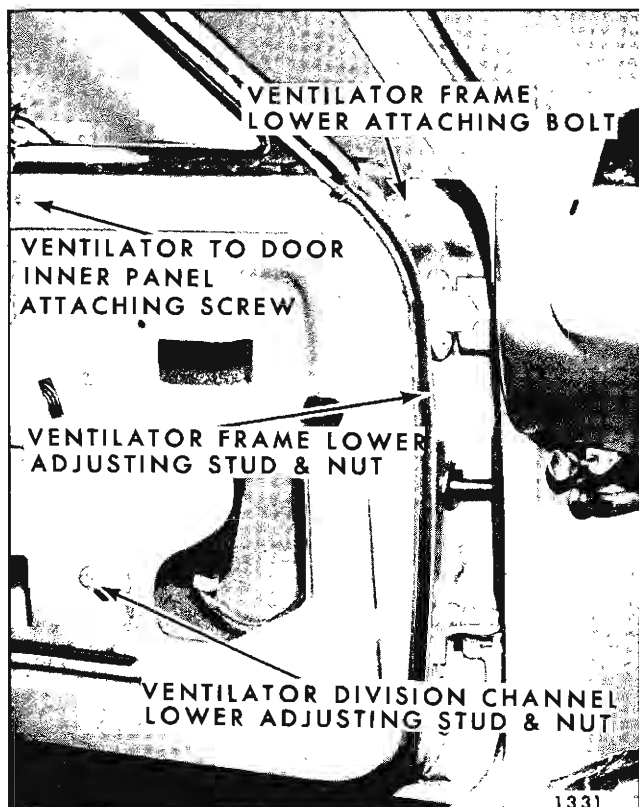

Fig. 2D25—Front Door Ventilator Hardware
3. Remove ventilator division channel lower adjusting stud nut (See Fig. 2D24).
4. Remove door inner panel to ventilator attaching screw (See Fig. 2D24).